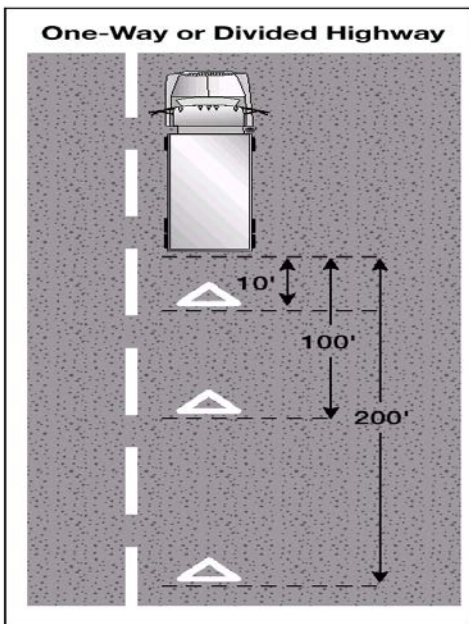

Figure 2.8
- If you must stop on or by a one-way or divided highway, place warning devices 10 feet, 100 feet, and 200 feet toward the approaching traffic. See Figure 2.8.